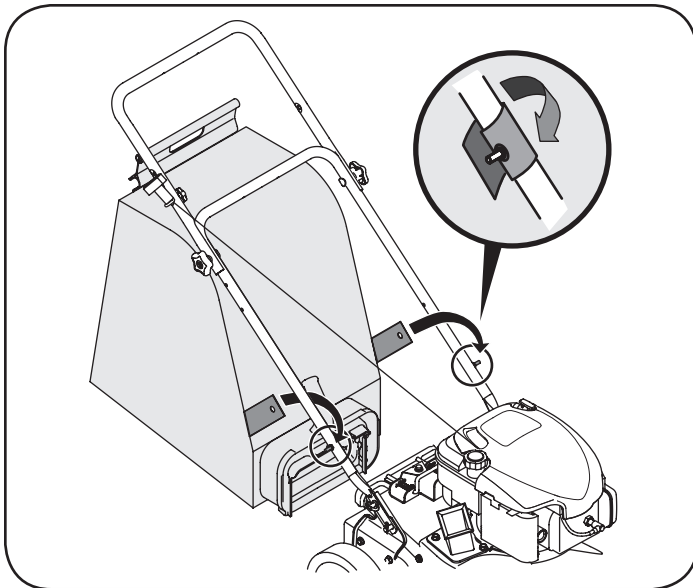

Figure 6
4. Place the lower straps on the bag over the top of lower handle, hooking them on the studs. See Figure 6.